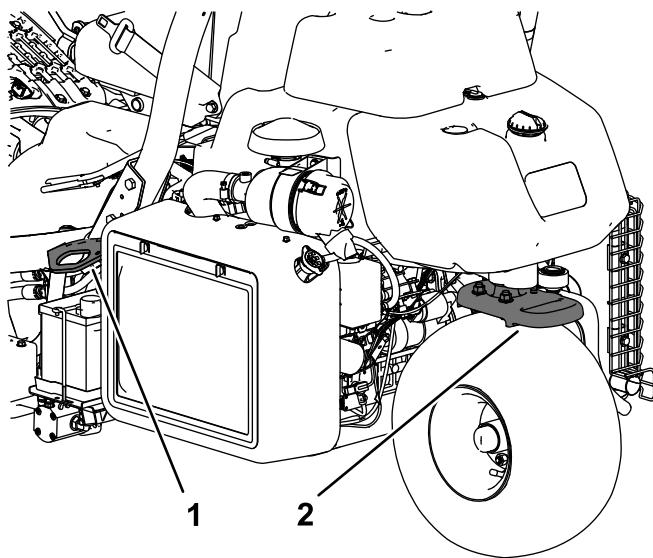

Figure 26
- Tie the machine down securely using straps, chains, cable, or ropes. Both front and rear straps should be directed down and outward from the machine (Figure 26).